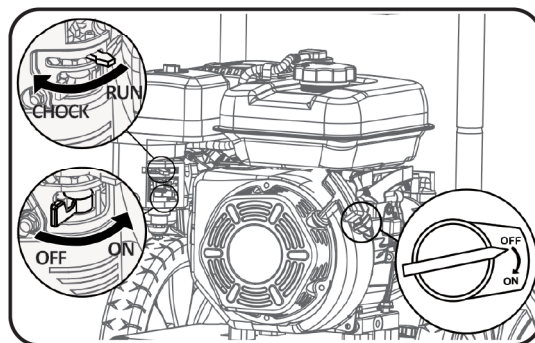
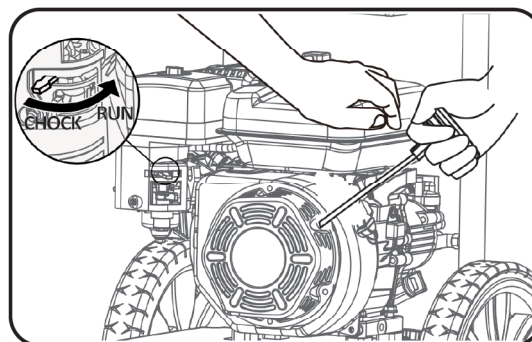

Fig.11
Fig.12
B. DÉMARRAGE DU NETTOYEUR HAUTE PRESSION (Voir fig. 11 / fig. 12)